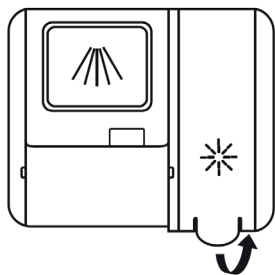

Fig.3
2. Open the rinse aid dispenser as shown in Fig.. 3.